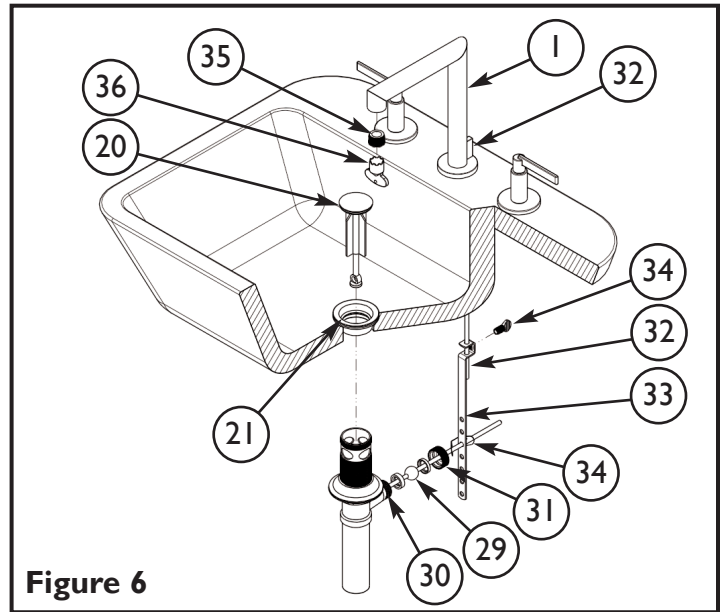

Figure 6
7. Insert ball ROD (29) into the drain rod OPENING (30); secure with ball rod NUT (31). Insert pop-up ROD (32) through SPOUT (1) and secure to STRAP (33), approximately 1" from end of ROD (32), with SCREW (34). Place drain PLUG (20) into FLANGE (21). Adjust the rise of the plunger and CLIP (34) into place. Adjust ball ROD (29) and pop-up ROD (32) so drain will open and close properly. See **Figure 6**.
8. Remove AERATOR (35) from SPOUT (1) using KEY (36) provided. Turn on water supply, and flush both VALVES until water is clear. Check for leaks and make any final adjustments required. Re-attach AERATOR (35) to the SPOUT (1). See **Figure 6**.